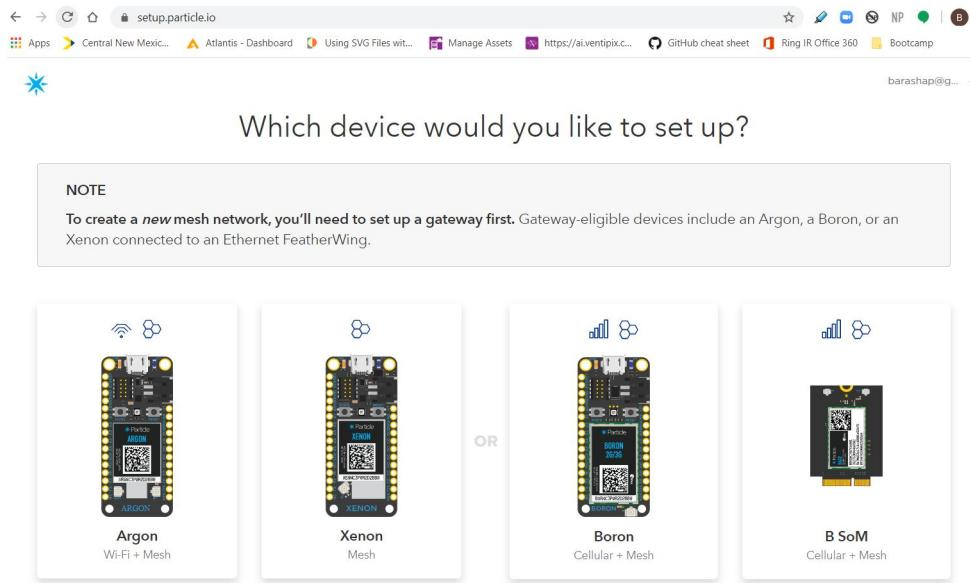

Figure 7.4: Particle Argon Setup
4. particle device add. You will use the device ID found with "particle serial identify" (Figure 7.4)